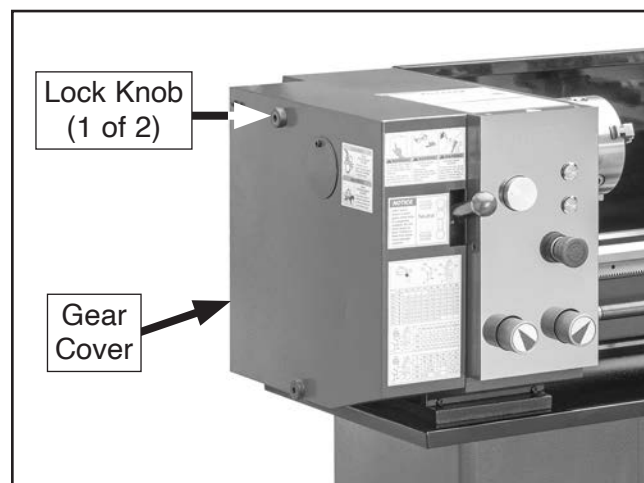

Figure 20. Location of gear cover and lock knobs.
15. Remove gear cover lock knobs to remove gear cover (see **Figure 20**).